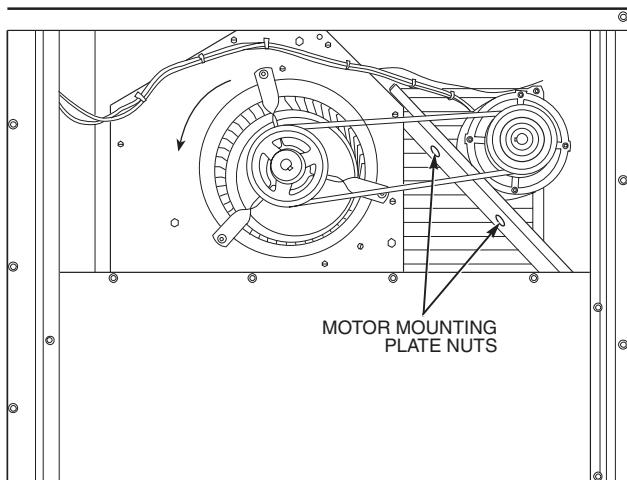

Fig. 34 — Typical Belt-Drive Motor Mounting for Sizes 090,091,102,103
2. Loosen belt by loosening fan motor mounting plate nuts (see Fig. 34 and 35).
To adjust belt tension (see Fig. 34 and 35):
2. *Units 090,091,102,103* — Slide motor mounting plate away from fan scroll for proper belt tension ($\frac{1}{2}$ -in. deflection with 8 to 10 lb of force) and tighten mounting nuts (see Fig. 34).